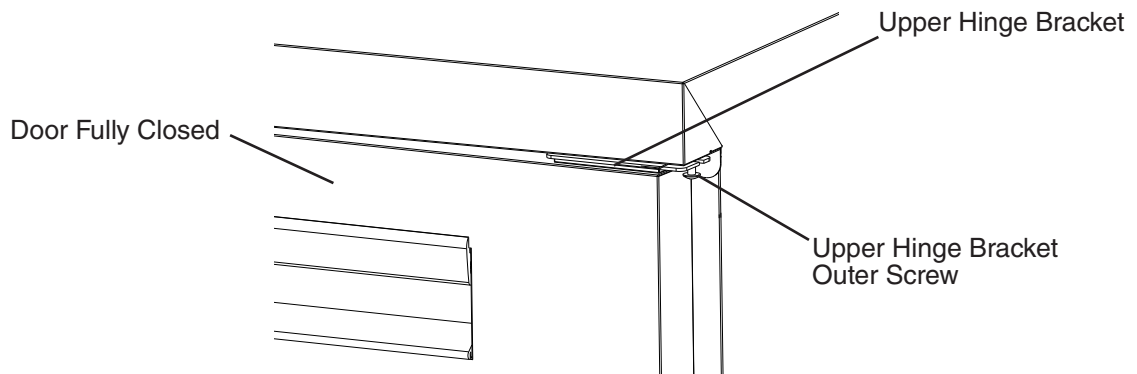

Fig. 28
- 19) Close the door and tighten the upper hinge bracket outer screw. See Fig. 28.